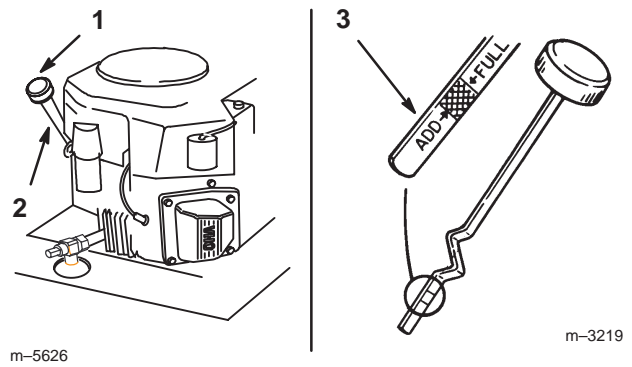

Figure 29
4. Clean around the oil dipstick (Fig. 29) so that dirt cannot fall into the filler hole and damage the engine.
5. Unscrew the oil dipstick and wipe the metal end clean (Fig. 29).
6. Slide the oil dipstick fully into the filler tube. Do not thread it onto the tube (Fig. 29). Pull the dipstick out and look at the metal end. If the oil level is low, slowly pour only enough oil into the filler tube to raise the level to the full mark.
5. Slowly pour approximately 80% of the specified oil into the filler cap (Fig. 29). Refer to Servicing the Engine Oil, page 28.